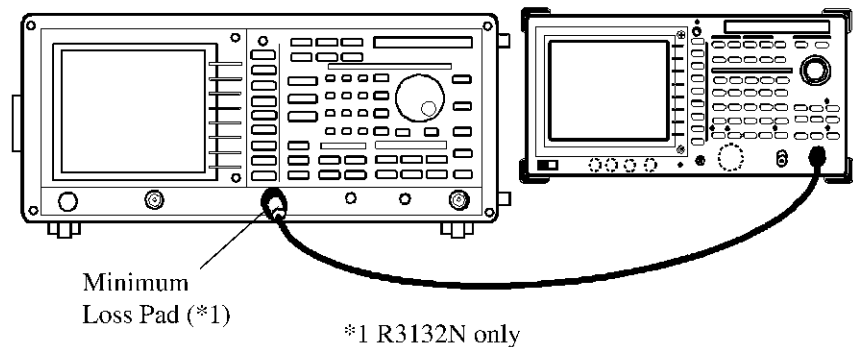

Figure 5-26 Setup of Non Harmonic Distortion Test
1. Connect the R3132 series and spectrum analyzer as shown in Figure 5-26.